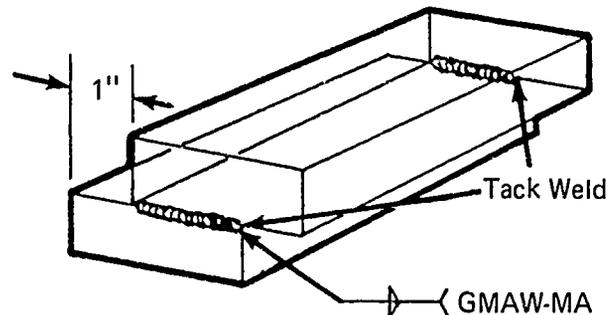

FIGURE 2
- D. Position metal to form a lap joint and tack weld (Figure 2)